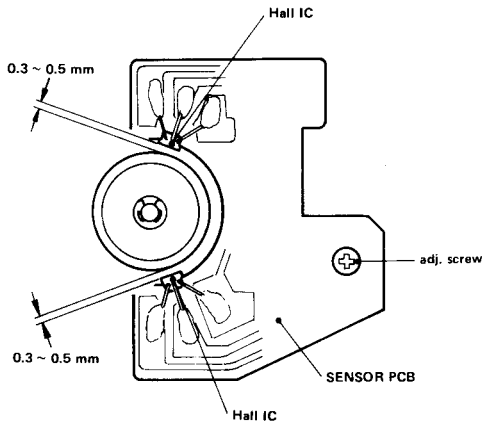

Fig. 4-8
1. Adjust by moving the SENSOR PCB assembly so that the clearance shown in Fig. 4-8 is 0.3 ~ 0.5 mm.